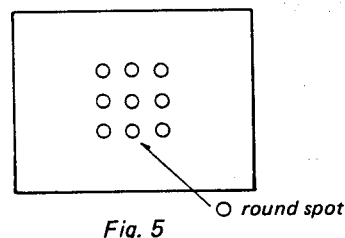

Fig. 5
4. Make the SPOT round by adjusting the fourpoles magnet for SPOT adjustment. (See Fig. 5.)